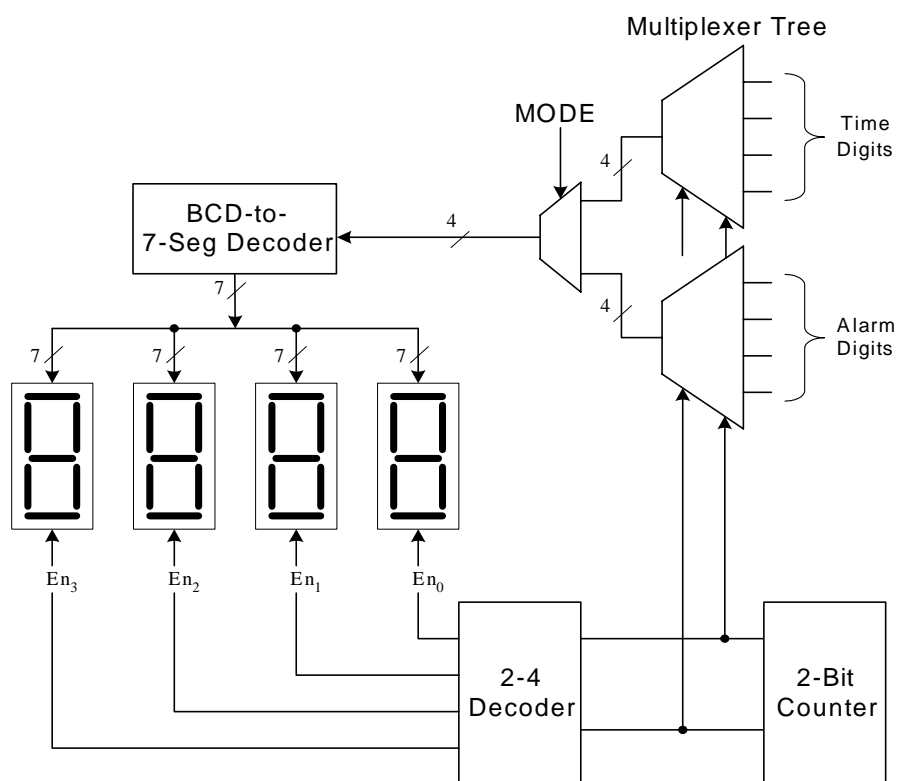

Figure 9.2
The overall block diagram of the circuit is shown in Figure 9.2.
- Make sure you understand the block diagram of Figure 9.2.